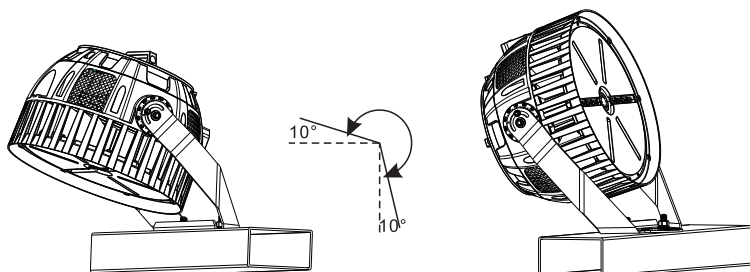

Figure 9
5. According to the need, adjust the projection angle, angle adjustment range (Figure 9)